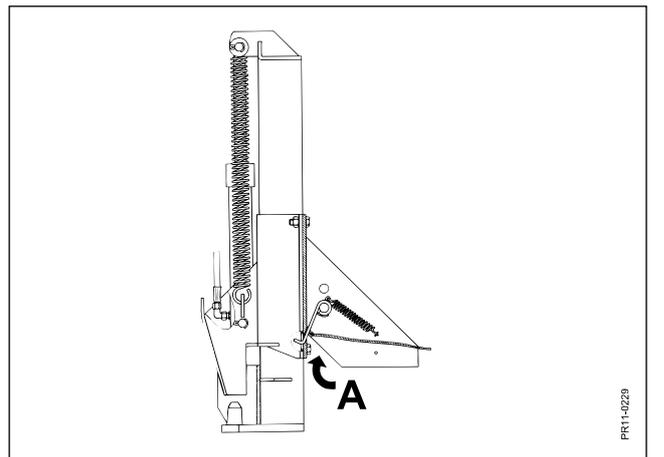

Fig. 3.4
**Fig. 3.4** hydraulic control handle a little backwards so that the weight of the trailer rests on the latch and not on the hydraulic cylinder. Lead a string from the latch **A** to the tractor seat.